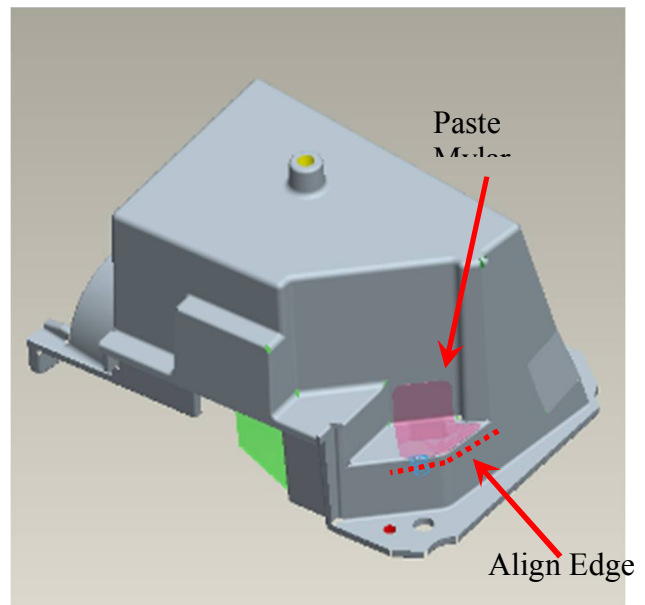

Fig. 2-12
- IX. Paste "Mylar Sub HSG" align the edge on outside of sub HSG. (Fig. 2-12)